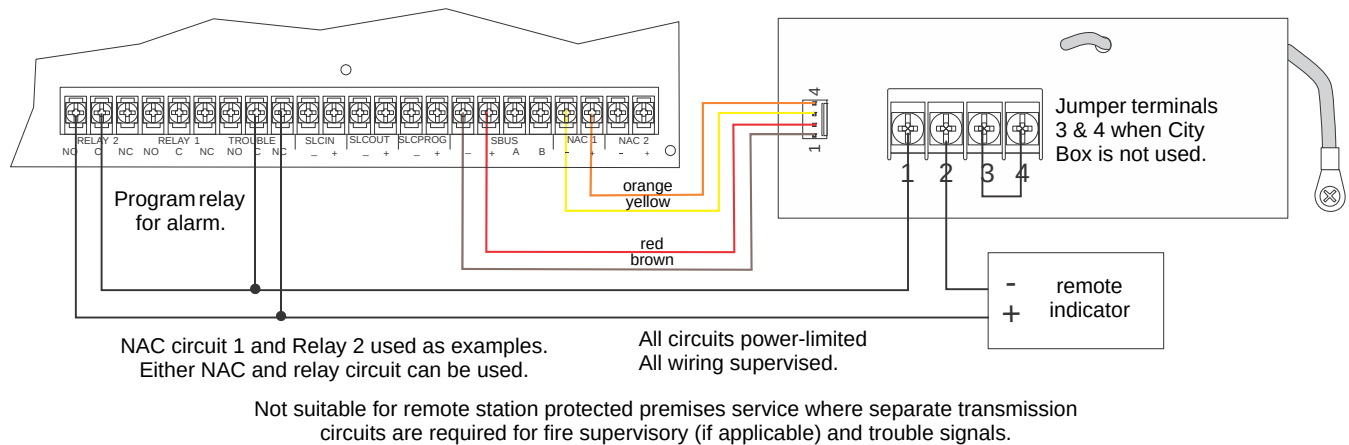

Figure 4.46 Polarity Reversal Connection Using the 5220 Module
2. Wire the 5220 to the control panel using the four-wire pigtail provided as shown in Figure 4.46. This diagram also shows how to connect the 5220 to the remote indicator. Do not install an EOL resistor in the terminals of the NAC circuit used for this application.